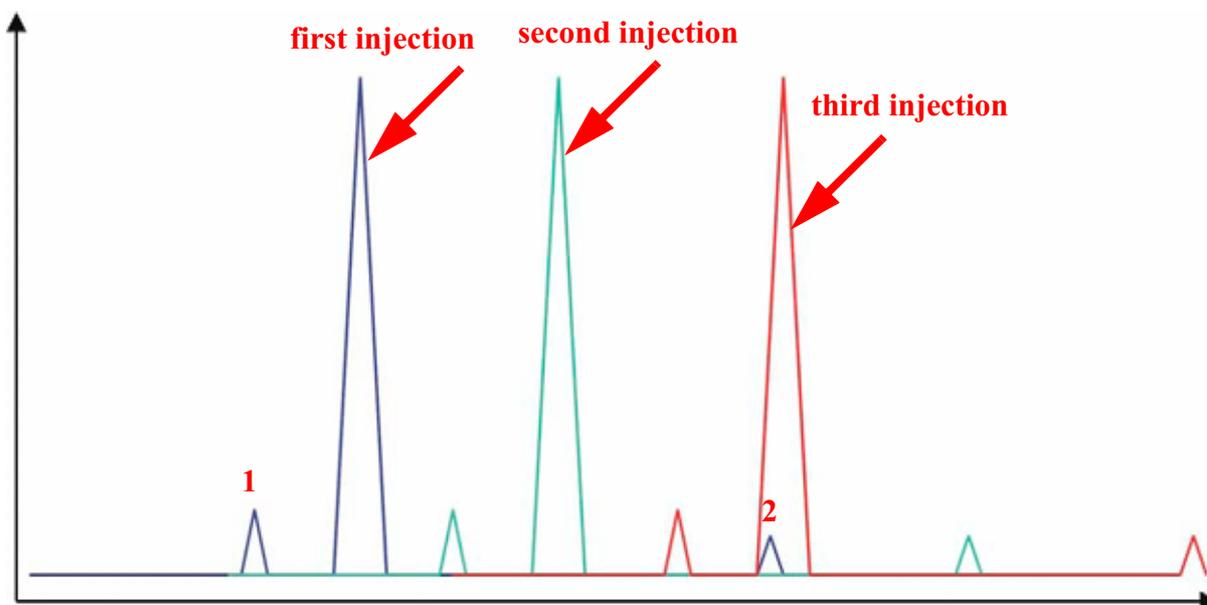

Figure 5-9. Upon Retention Times - Combining Chromatograms
1. Air peak precedes CO2. See **1** in Figure 5-9.
2. Water peak may follow CO2 but must not interfere with CO2. See **2** in Figure 5-9.